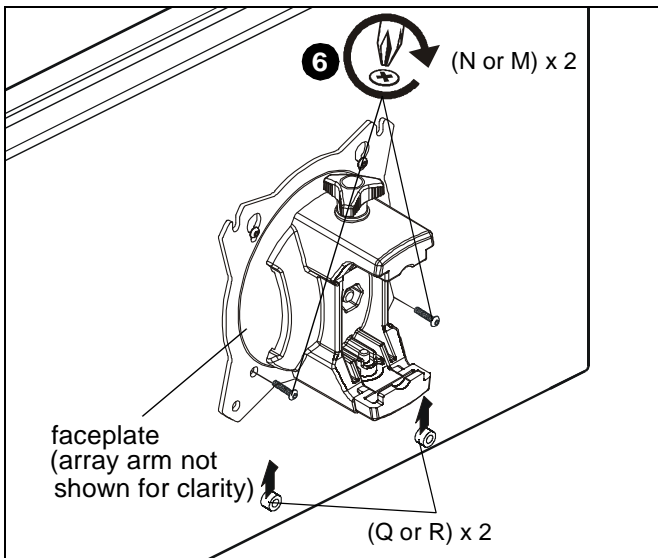

Figure 17
- Slide two remaining selected spacers (Q or R) in between faceplate and display, positioning them over the lower two mounting holes. (See Figure 17)
- Install two remaining selected screws (N or M) through lower two mounting holes on faceplate, selected spacers (Q or R) into the lower mounting holes on the display. (See Figure 17)